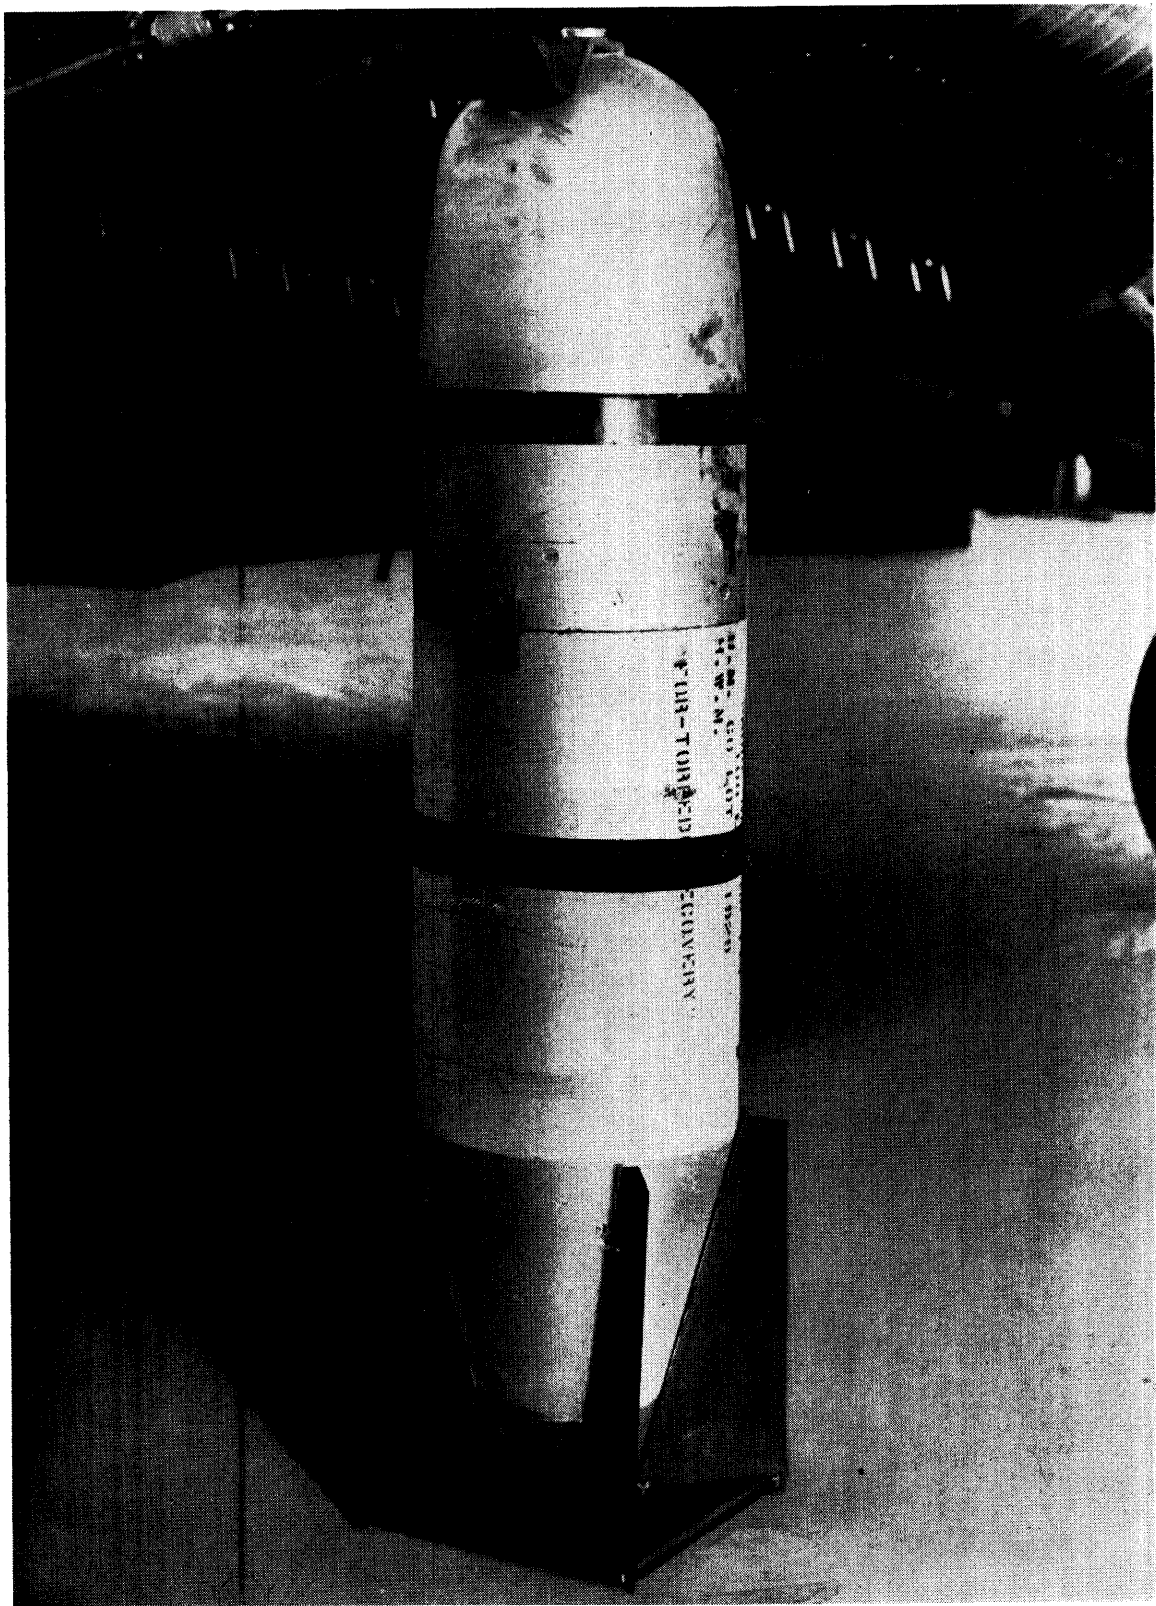

Figure 1—100-lb. Aircraft Smoke Bomb Mark 3
1. **The 100-lb. Aircraft Smoke Bomb Mark 3 Mod 0 (Figs. 1 & 2).** The 100-lb. Smoke Bomb Mark 3 Mod 0 consists of an aluminum nose casting which carries the smoke charge, a hollow wood float to provide buoyancy, and four tail fins to provide good flight characteristics. The bomb is shipped with a water-impact Fuze Mark
1. The 100-lb. Aircraft Smoke Bomb Mark 3 Mod 0 (Figs. 1 & 2). The 100-lb. Smoke Bomb Mark 3 Mod 0 has two movable suspension bands. It may be suspended from any bomb rack or shackle subject to the following: